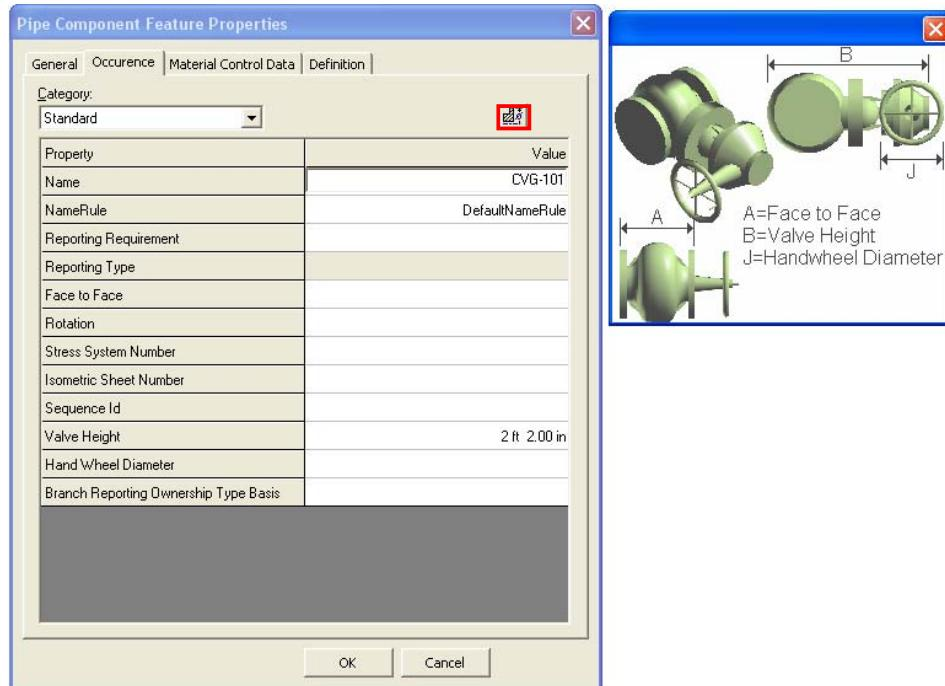

Figure 17: Show Dimensional Legend Button on the Pipe Component Feature Properties Dialog Box
- You can preview the instrument and the instrument specifications by clicking the **Show Dimensional Legend** button on the Occurrence tab in the Pipe Component Feature Properties dialog box, as shown in Figure 17.